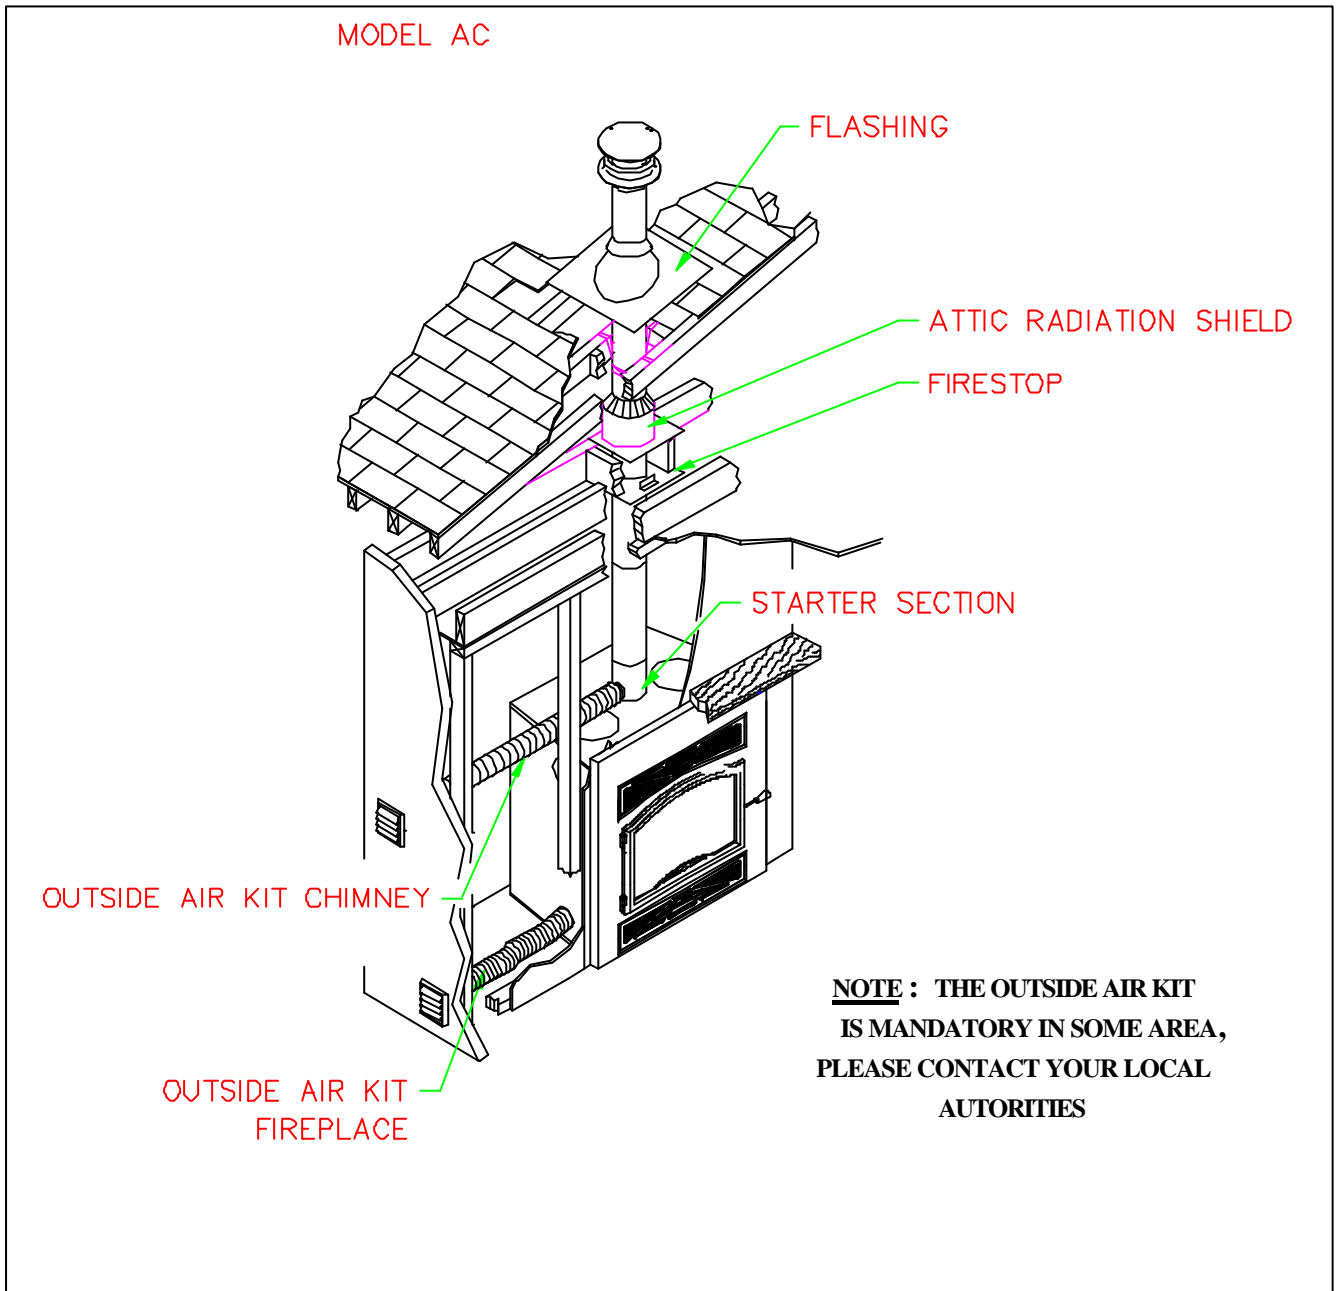

Figure 30
3. For ASHT+ / HT6103+ and S2100+ / HT6000+ chimneys, place the first chimney length on the fireplace. To lock it in place, turn ¼ of a turn clockwise. With the AC chimney, you must use a starter section before installing the first chimney length (figure 30). Continue installing chimney lengths making sure to lock each length in place.